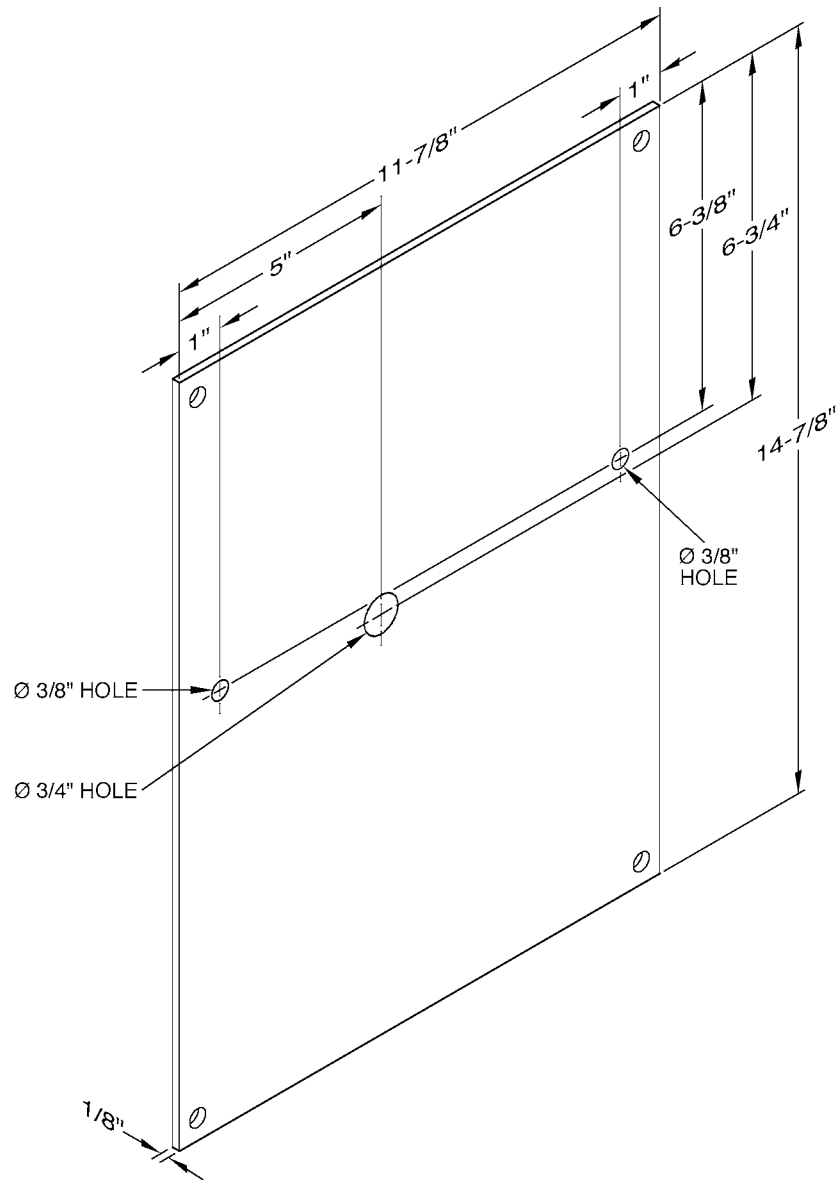

Figure 2-13b. Instrument Panel Support
3. See Figure 2-13b for instructions on drilling holes so that wiring can be mounted in back.
5. Weld 1/8-inch aluminum plate to powerplant frame. See Figure 2-13b. This is where the instrument panel support will pivot.